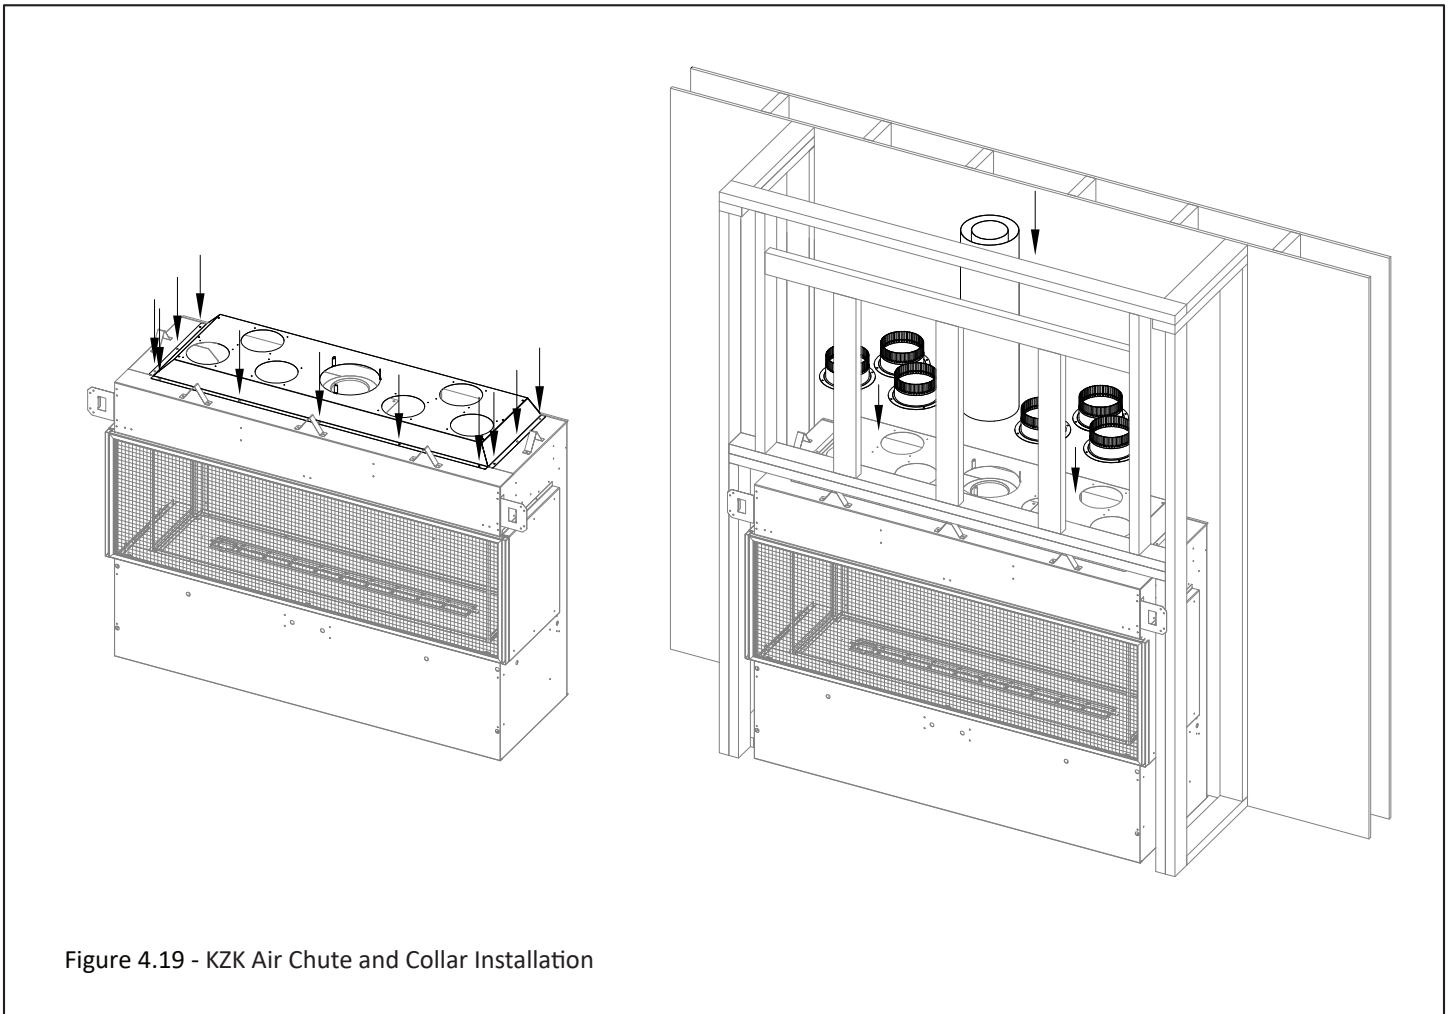

Figure 4.19 - KZK Air Chute and Collar Installation
**Important:** You must order a (1) G6020-ACH with your KZK-056 or KZK-1510 and KZK-610. The G6020-ACH attaches to the fireplace. See Figure 4.19.
1. Use the provided (11) sheet metal screws with the kit to install the air chute. Slide the fireplace into the framed opening.
2. Next you will install the first section of vent pipe. There are (3) tabs to fold up and then you can insert the vent pipe into the center hole. Ensure the vent pipe is fully seated on the vent pipe connection. Use the (3) fold up tabs to secure the vent pipe.
3. Use the (24) provided sheet metal screws to install the KZK collars on the air chute.
6. Attach the piping from all (6) plenum vent collars to all (6) fireplace vent collars. An upward slope must be maintained in horizontal section of pipe for proper convection.
7. Install the plenum discharge trim / grille provided with this kit using the (2) provided screws. If desired, the discharge trim or grille may be painted using high temperature paint (250F). Continue with fireplace installation.